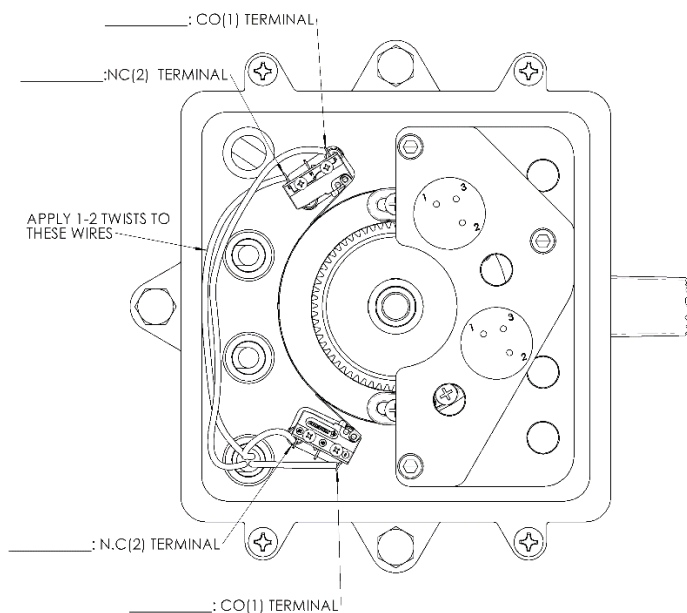

Figure 4: Wiring schematic for customer fill out, two switch module
1. Note connections of all wires going to the old microswitches prior to disconnecting. It is recommended to fill out the colors of wire going to each terminal on the diagram shown in Figure 4. On the old microswitch, Kobelt PN 6001-0104, the terminals are labelled 1 and 2, and correspond to terminals 1 and 2 on the new microswitches.
- a. Follow the wiring connections that were noted in step one, Figure 4.
- c. In case of discrepancy between the noted wiring and factory wiring, it is recommended to keep wiring as noted in Figure 4 as the wiring may have been altered in the field at original installation. This will ensure the RFU behaves in the same manner as prior to the retrofit.